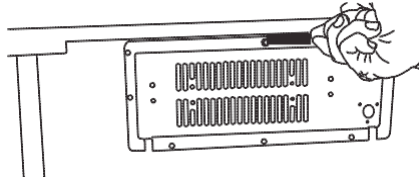

Figure 18 - Removing Blower Access Panel
1. Remove screws securing blower access panel to back of stove (see Figure 18). Place screws in a safe location.
23. Check all wires, then replace blower access panel (see Figure 18, page 9).